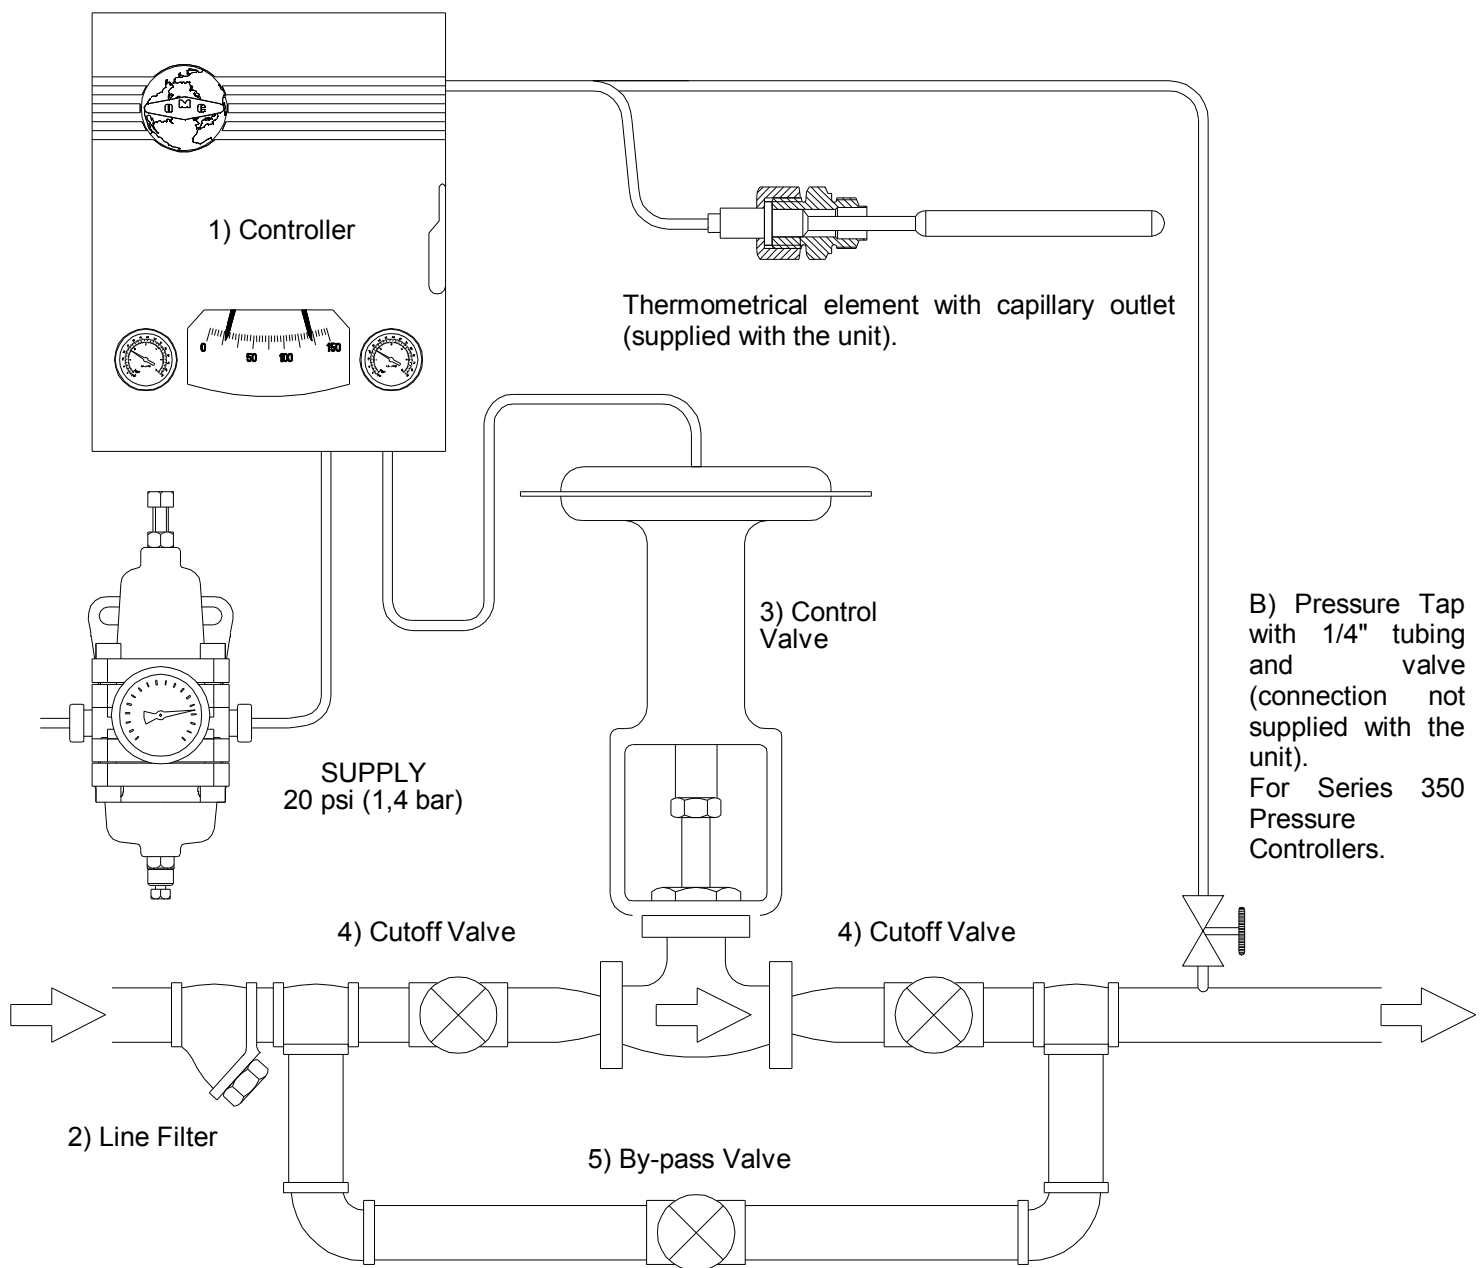

Fig. 2.2.1 "PNEUMATIC CONTROL VALVE INSTALLATION"
2.2. PNEUMATIC CONTROL VALVE INSTALLATION (Fig. 2.2.1)
C - Completely open the cutoff valves situated upstream and downstream to the control valve. Make sure that the bypass valve is closed (see Fig. 2.2.1).
D - Make sure that the bypass valve (5) supplied with the pneumatic valve (3) is completely closed and that the downstream cutoff valve (4) is fully open (see Fig. 2.2.1).
E - Open the cutoff valve (4) situated upstream to the pneumatic valve slowly and completely (see Fig. 2.2.1).
E - Make sure that the bypass valve (5) supplied with the pneumatic valve (3) is completely closed and that the downstream cutoff valve (4) is fully open (see Fig. 2.2.1).
F - Open the cutoff valve (4) situated upstream to the pneumatic valve slowly and completely (see Fig. 2.2.1).
F - Make sure that the bypass valve (5) supplied with the pneumatic valve (3) is completely closed and that the downstream cutoff valve (4) is fully open (see Fig. 2.2.1).
G - Open the cutoff valve (4) situated upstream to the pneumatic valve slowly and completely (see Fig. 2.2.1).